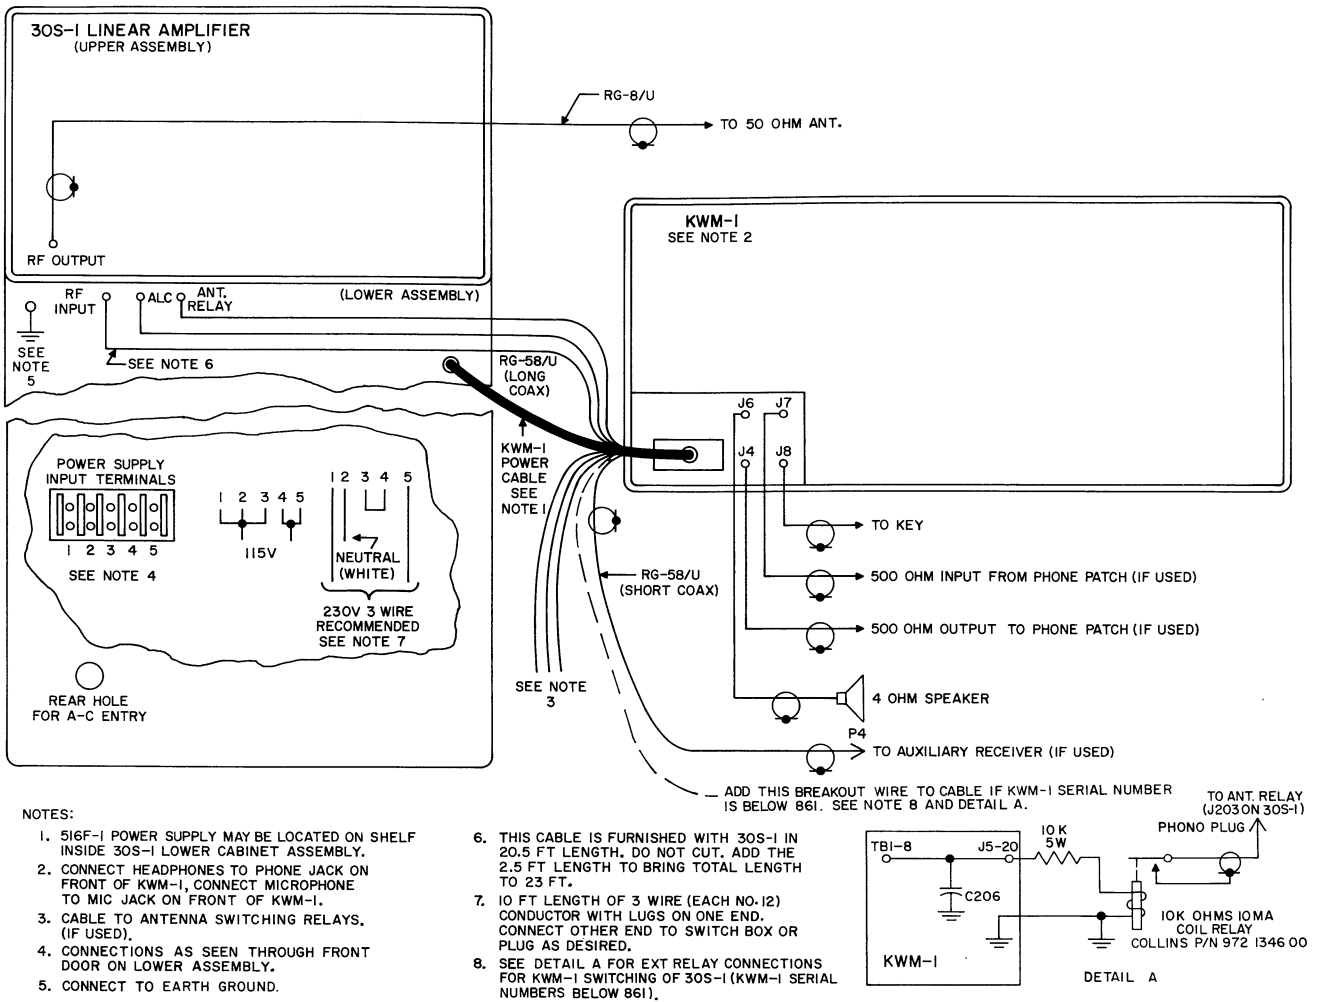

Figure 3. Station Interconnections with KWM-1
o. If KWM-1 models below serial number 861 are used with the 30S-1, it is necessary to make connections inside the KWM-1 for alc. Use an ohmmeter to locate the feedthrough capacitor, C169, which is connected to pin 19 of J5. Connect a wire from this feedthrough capacitor to pin 7 of tube socket XV10. In addition, it will be necessary to connect an external dropping resistor and relay as shown in the detail of figure 3, for KWM-1 control of change-over relays in the 30S-1. Using an ohmmeter, locate the feedthrough capacitor, C206, which is connected to pin 20 of J5 (in KWM-1). Connect a wire from terminal 8 of TB1 in KWM-1 to C206. Make corresponding break-out connection from P1-19 with shielded wire and connect break-out to 30S-1 ALC jack with phono plug. External to the KWM-1, connect a 10,000-ohm, 5-watt resistor and a relay coil in series from J5-20 to a ground on the rear of the KWM-1 chassis. Use a relay, such as Collins part number 972-1346-00, with a 10,000-ohm, 10-ma coil and a set of normally open contacts. Connect the normally open contacts through a piece of shielded wire (or microphone cable) and a phono plug to ANT. RELAY (J203) on the 30S-1. This arrangement will allow KWM-1 switching of 30S-1 changeover relays.